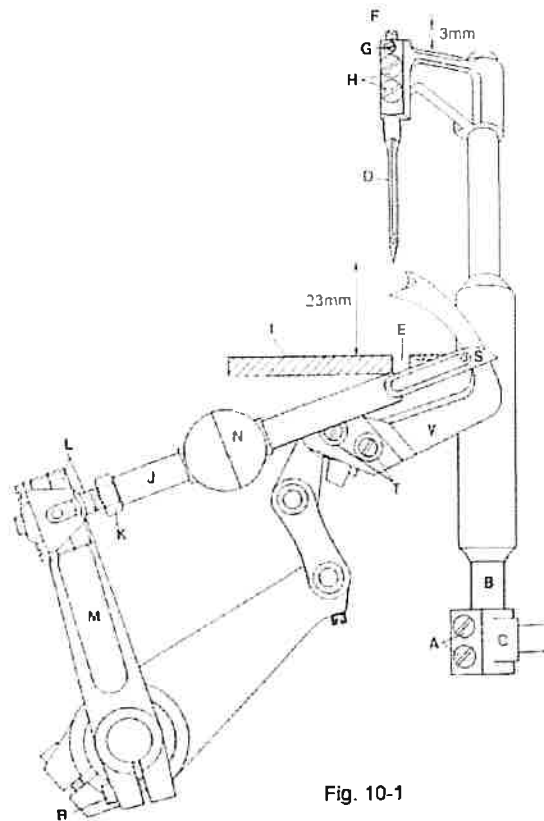
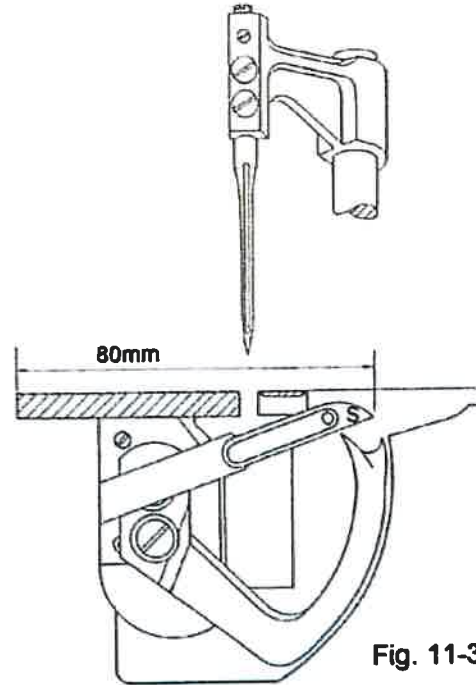

Fig. 10-1
Fig. 11-3
Loosen two screw (A, Fig. 10-1) to adjust position of needle bar (B) in holder (C). Bring needle (D) to the slot (E) of needle plate (I) and then aligns needle tip to the center of slot (E).
Loosen screw (G, Fig. 10-1) and adjust position of screw (F) to make height in 3mm as illustration.
Tighten screw (G, Fig. 10-1) and then bring needle bar (B) to its highest position. Loosen two screws (H) to adjust position of needle (D) so that distance between needle tip and needle plate is 23mm as illustration.
Turn handwheel until position of lower looper and upper looper as illustration (Fig. 11-3). At this time, distance between lower looper tip (S) and needle plate is 80mm. Loosen screw (R, Fig. 10-1) to move lever (M) for adjusting.
Bring upper looper (V, Fig. 10-1) to its lowest position. Loosen two screws (T) to replace upper looper. Be sure that upper looper and lower looper do not touch. If not, make following adjustment.